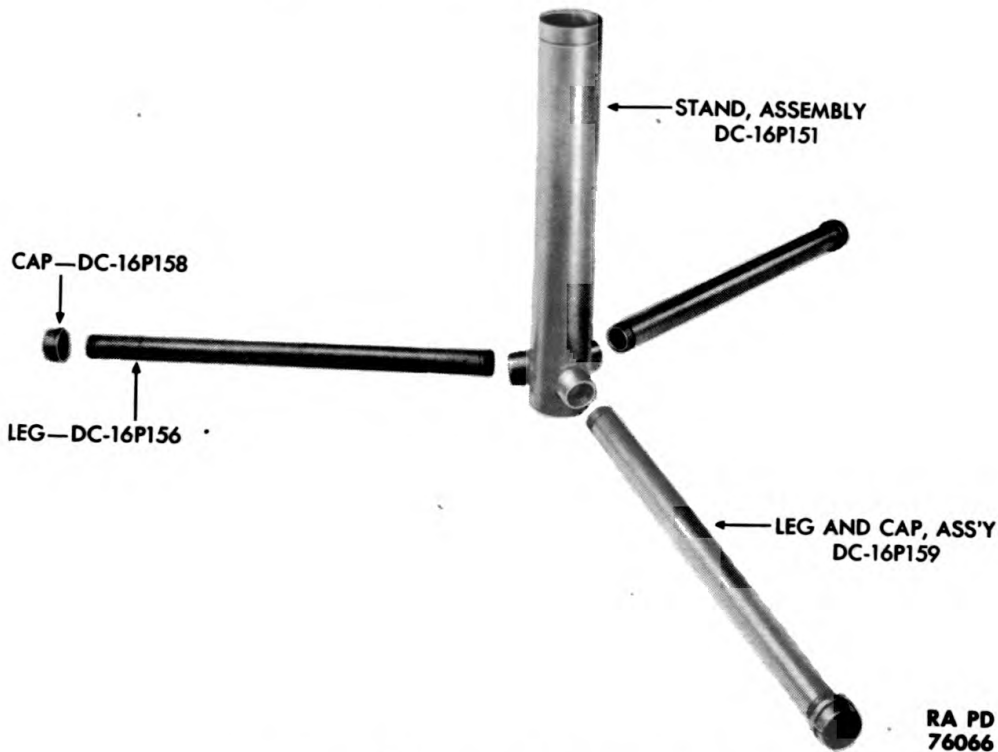

Figure 120 — Tripod — Disassembled
(25) Remove the two nuts and the screws holding the firing electromagnet in position. Slide the electromagnet from between the side bracket, through the bottom.
(26) Unscrew the leg caps and the legs from the stand assembly to disassemble the tripod (fig. 120).